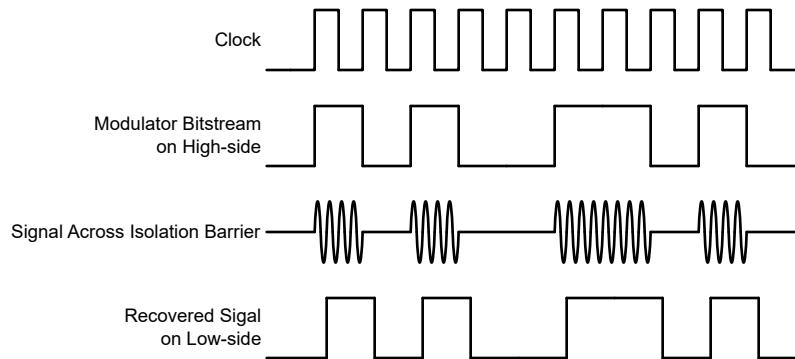

图 7-3. OOK-Based Modulation Scheme
The AMC1306M05-Q1 uses an on-off keying (OOK) modulation scheme, as shown in 图 7-3, to transmit the modulator output bitstream across the SiO_2 -based isolation barrier. The transmit driver (TX) shown in the Functional Block Diagram transmits an internally generated, high-frequency carrier across the isolation barrier to represent a digital one and does not send a signal to represent a digital zero. The nominal frequency of the carrier used inside the AMC1306M05-Q1 is 480 MHz.